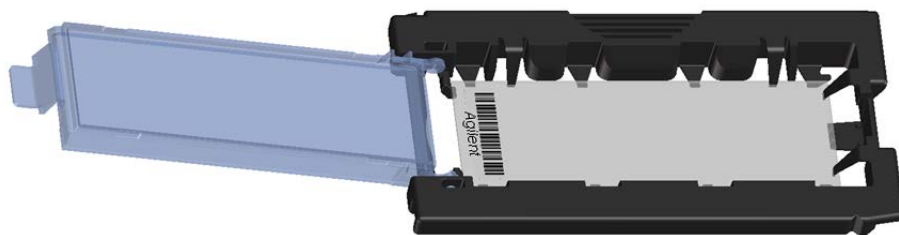

Figure 30 Slide inserted in slide holder – cover open
- c Gently lower the slide into the slide holder. See **Figure 30**.